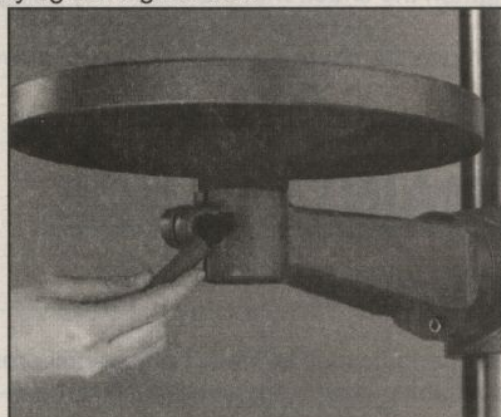

Figure 18
1. Loosen the lock handle located under the table as shown in **Figure 18**. Rotate the table the desired amount.